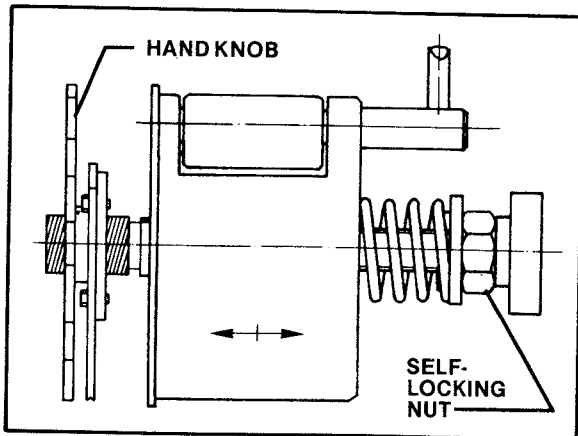

FIGURE 14
- 1) FRICTION BRAKE - Refer to Figure 14.
- a) Loosen jam nut or hand knob (figure 14) behind tape drum on tape drum shaft.